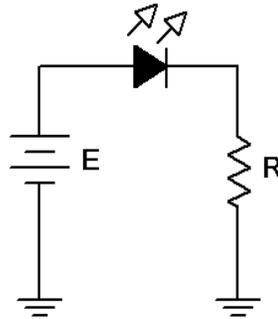

Figure 1
1. The forward potential of an LED depends on its design and the current flowing through it. The other two circuits in this exercise are designed to produce LED currents of approximately 10 mA so a determination of the forward potential of this particular diode at 10 mA is desired. Assemble the circuit of Figure 1 using  $R = 470 \Omega$ , and  $E = 5$  volts. Insert an ammeter in line with the LED. Increase  $E$  until 10 mA is reached (the LED should be reasonably bright). Record the resulting LED voltage in Table 1.